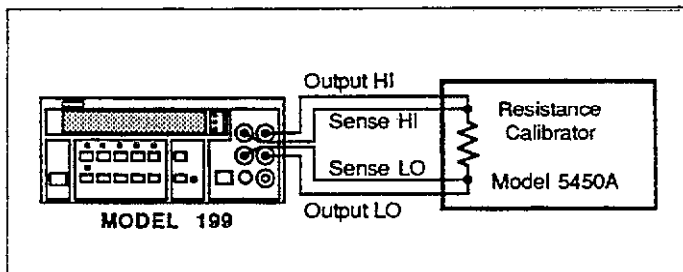

Figure 4-3. Connections for Ohms Verification (300Ω–30kΩ Range)
2. Using Kelvin test leads (such as the Keithley Model 1641) connect the resistance calibrator to the Model 199 as shown in Figure 4-3.
6. Utilizing Figures 4-3 and 4-4, check the 3kΩ through 300MΩ ranges by applying the respective resistance levels listed in Table 4-4. Verify that the readings are within the limits listed in the table.